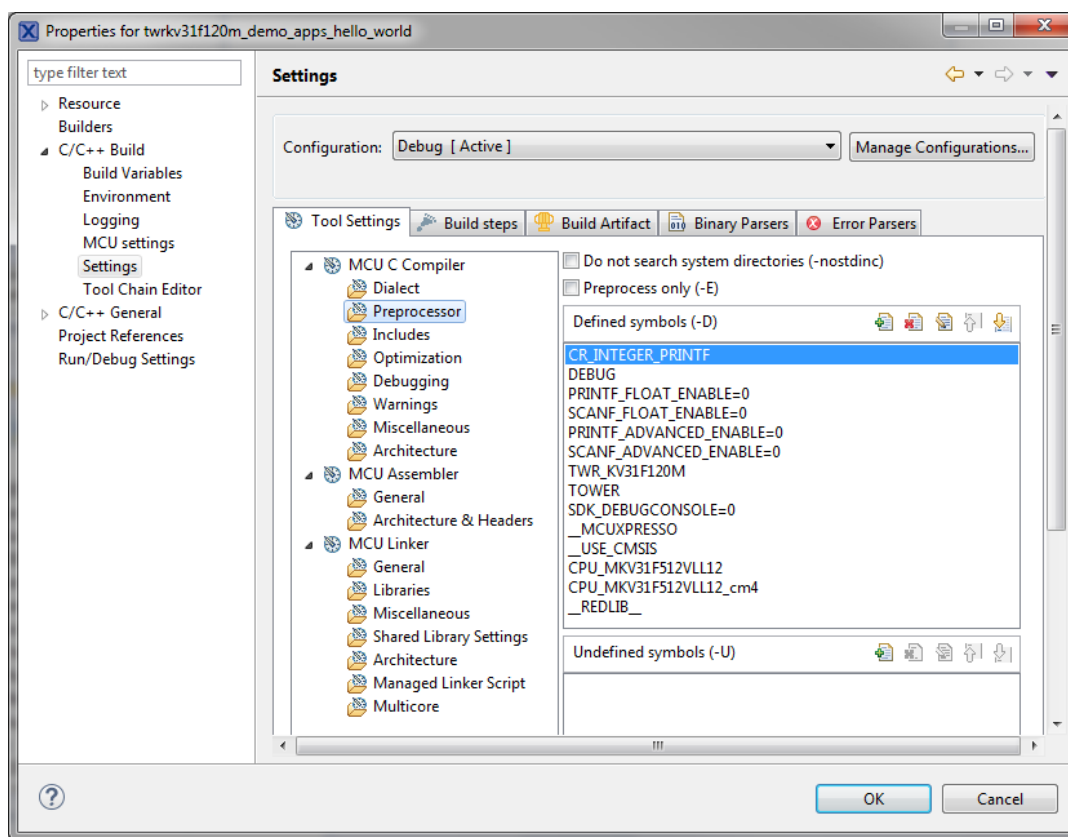

Figure 1-1. Defined symbols
2. Expand the C/C++ Build node and select Settings. See Figure 1-1.
3. In the right-hand part, under the MCU C Compiler node, click the Preprocessor node. See Figure 1-1.